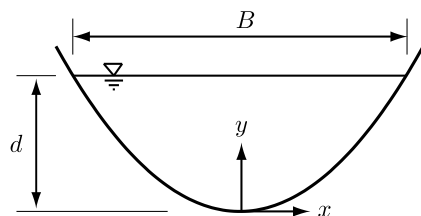

Figure 1: Cross-section of a parabolic channel.
1. The walls of the parabolic channel section shown in Fig. 1 are described by the equation